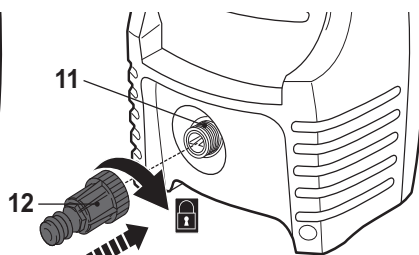

Fig. 12
- > Screw the water hose connector (12) onto the water inlet (11) (Fig.12).